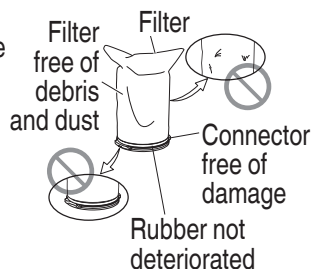

Fig. 10
- (3) Check the filter (**Fig. 10**)